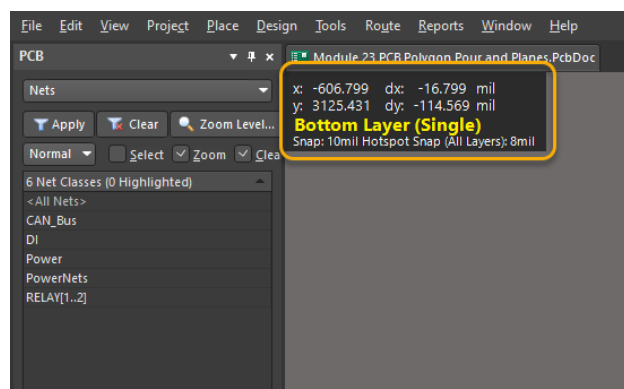

Figure 3. Snapping options in the Properties panel
17. If it is not visible, enable the *Heads-Up Display (HUD)* by pressing **Shift + H** as shown in Figure 3 below. You can change HUD window opacity and options in **Preferences**, under the *PCB Editor* branch, on the *Board Insight Modes* page.